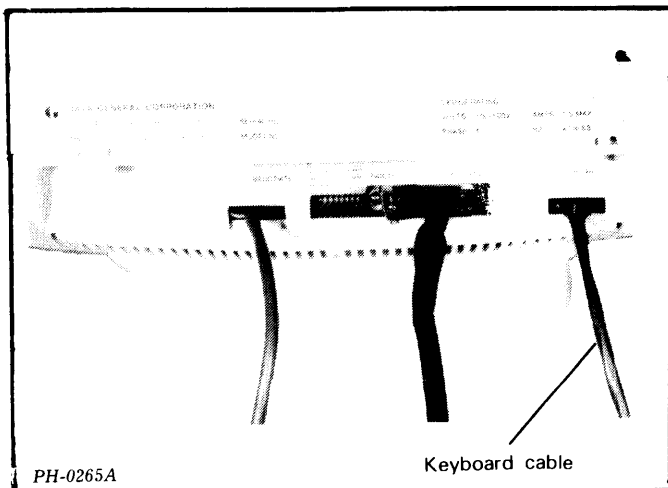

Figure 8.2 Keyboard cable
2. Remove the keyboard cable from the keyboard receptacle at the rear of the display by pulling directly outward on the connector (see figure 8.2). Do not pull on the cable.